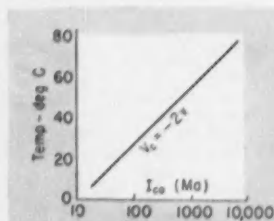
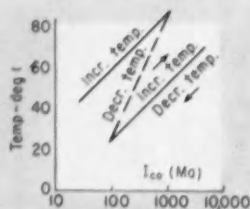

Fig. 1. Normal exponential variation of I_{co} with temperature.
Fig. 2. Shift in I_{co} after temperature cycling.
► **Transistor Saturation Current I_{co}** —This is the back-biased collector to base current. Its temperature-sensitive behavior must be considered in the design of power-transistor circuitry because it has a strong influence at high temperatures and power dissipations. This parameter's variations with temperature is an excellent gage of the transistor's inherent reliability (Figure 1 shows normal variation), since contamination and other manufacturing weaknesses frequently show up when the measurement is made. Random variations of I_{co} , instabilities, changes of slope, and new values after temperature cycling are examples. Figure 2 shows the effect of temperature cycling, probably caused by volatile elements within the transistor. This situation is now being corrected by using welded cases and eliminating solder flux.